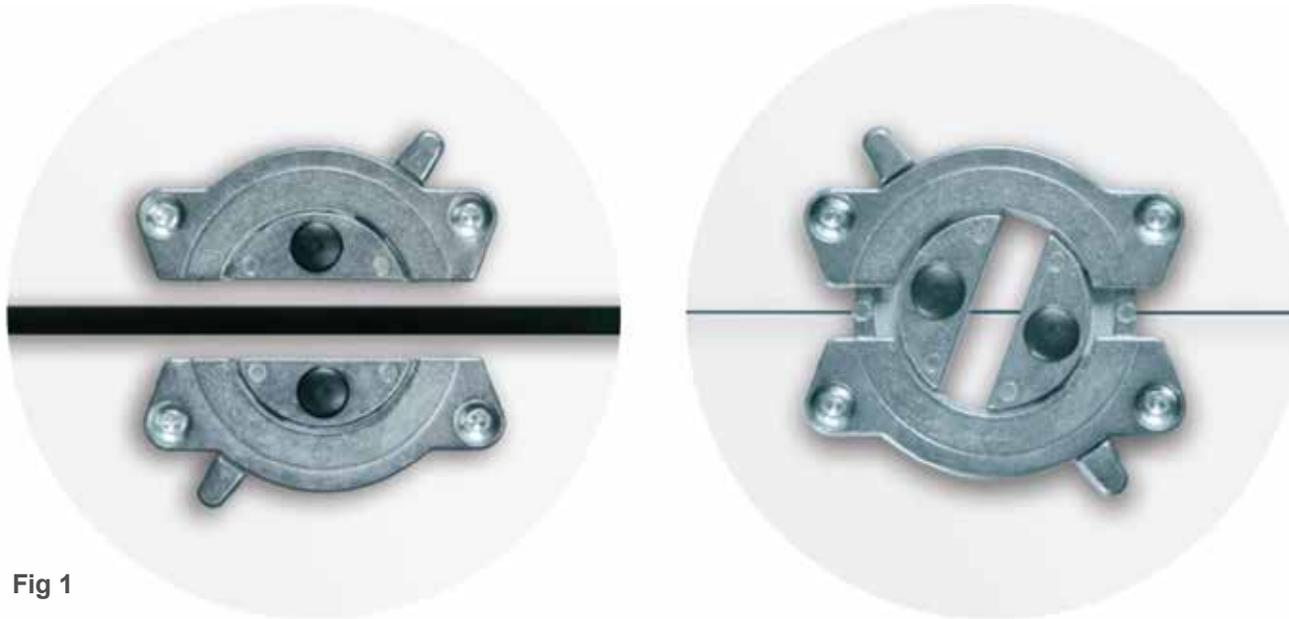

Fig 1
- When the table tops are folded down, place tops together so that the ganging clips are as seen in Fig 1.